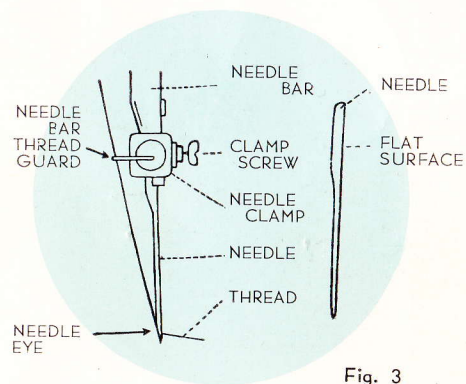

Fig. 3
2. Hold the needle in the left hand with the point down and insert the needle up into the needle clamp as far as it will go with its flat surface to the right; then retighten the clamp screw (Fig. 3).